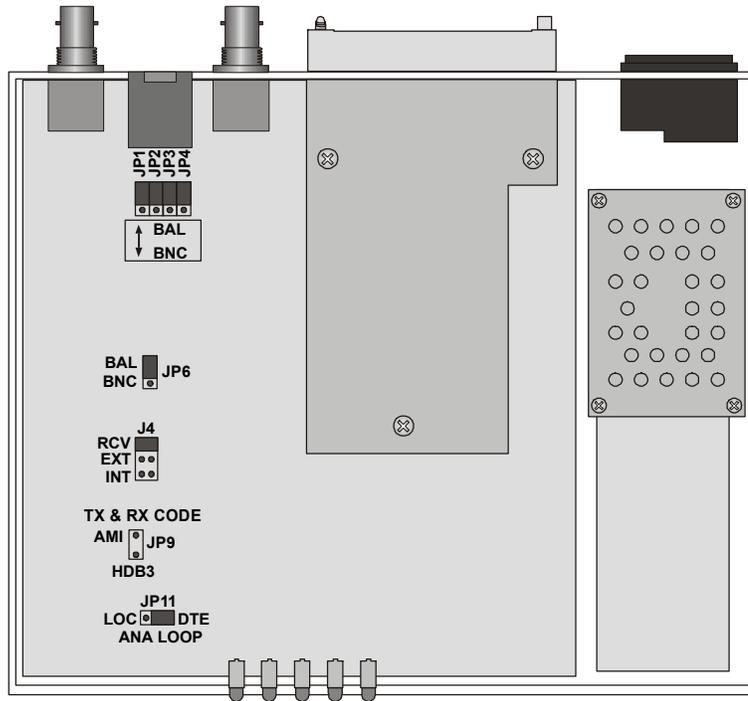
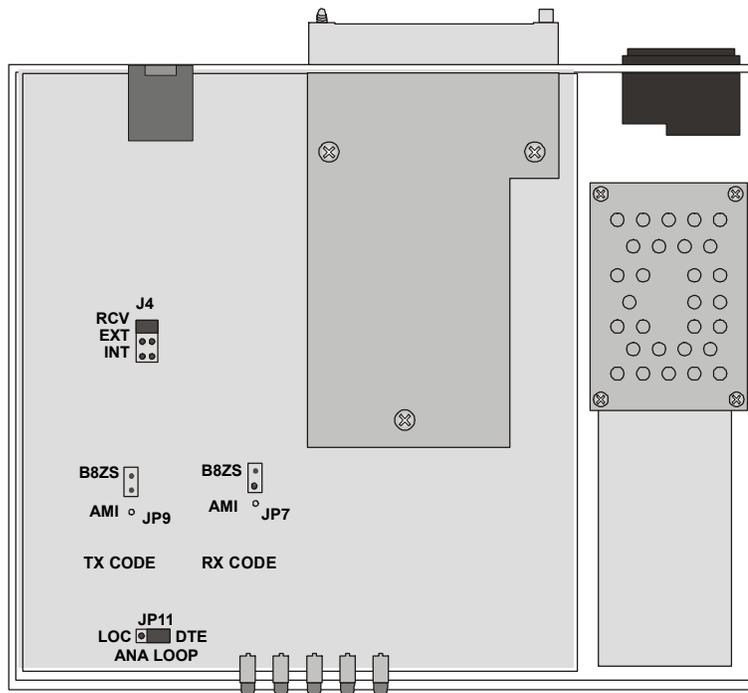

Figure 2-1. Jumper Locations, E1 Converter
Figure 2-2. Jumper Locations, T1 Converter
This section explains how to set the internal jumpers according to your requirements. Figure 2-1 and Figure 2-2 show the jumper locations.
5. Adjust the internal jumpers, as described in Table 2-1 and Table 2-2. Figure 2-1 and Figure 2-2 show the jumper locations.